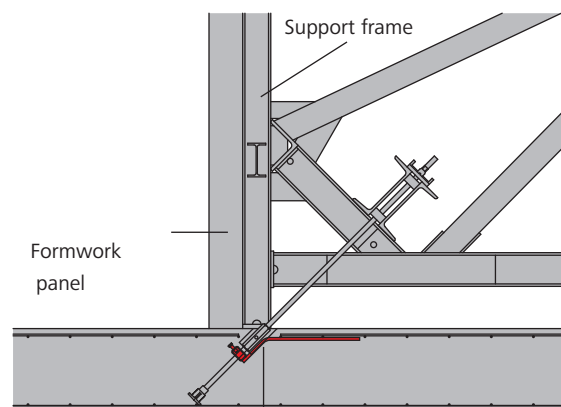
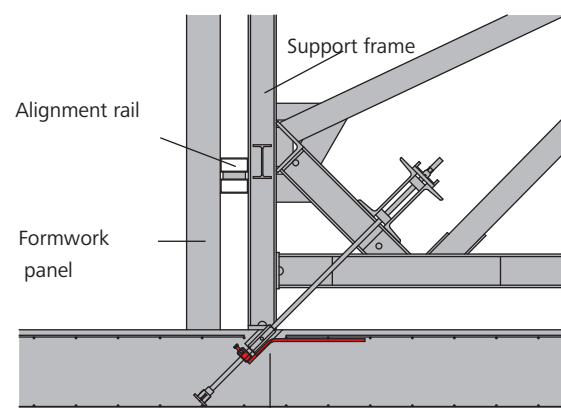

Fig. 12.2
Fig. 12.3
The installation dimension is the horizontal distance measured from the front side of the panel to the point where the tie rod projects out of the concrete slab (Fig. 12.2). Depending on the support frame to be anchored, it is as follows:
- 20 cm when using support frames STB 450 (Fig. 12.2). It is 30 cm when also using alignment rails (Fig. 12.3).